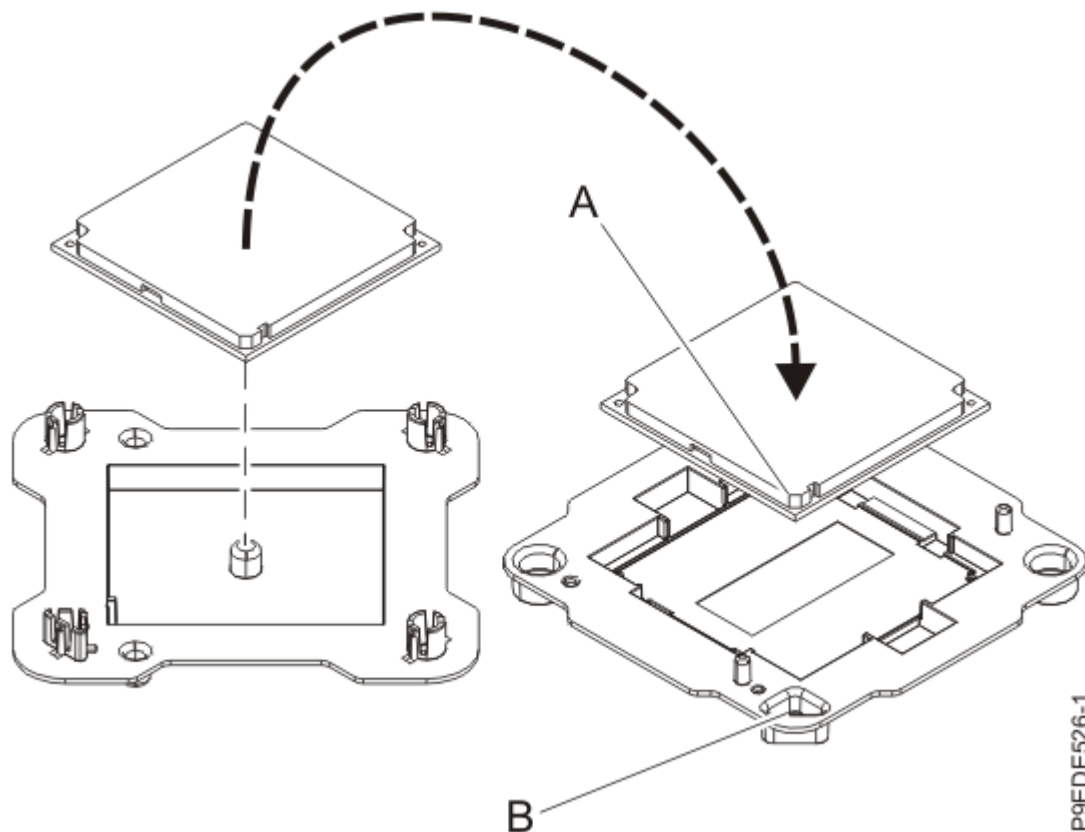

Figure 90. Placing the system processor module into the packaging
12. Lightly grip the system processor module that you replaced by the edges and lift it off the packaging cover. Align the beveled corner of the module **(A)** to the corner of the packaging with triangle **(B)** and place it in the packaging, as shown in Figure 90 on page 106. Close the packaging cover.